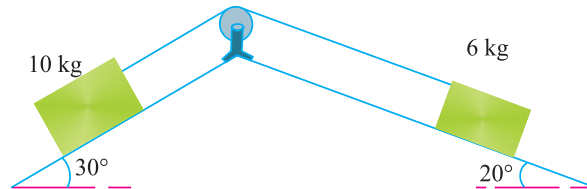

Fig. 25.15.
**Example 25.11.** Two smooth inclined planes whose inclinations with the horizontal are  $30^\circ$  and  $20^\circ$  are placed back to back. Two bodies of mass 10 kg and 6 kg are placed on them and are connected by a light inextensible string passing over a smooth pulley as shown in Fig 25.15.